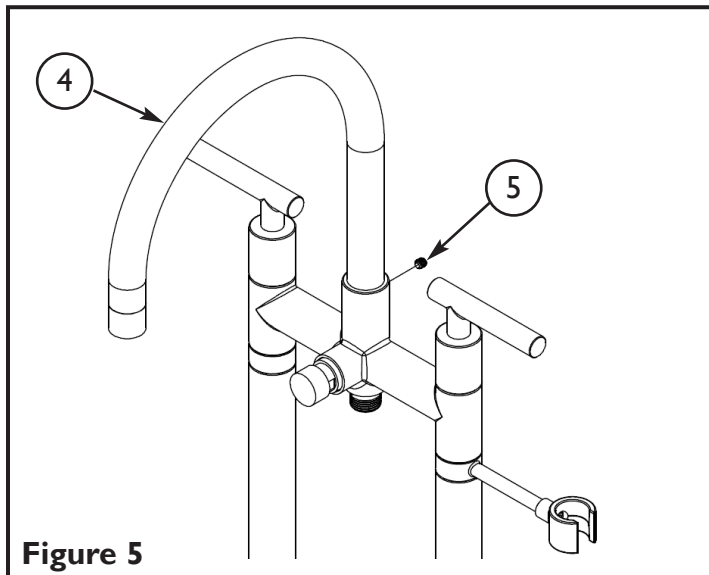

Figure 5
6. Orientate the SPOUT (4) as desired and lock in place by tightening the SET SCREW (5) on the back side of the spout. See **Figure 5**.